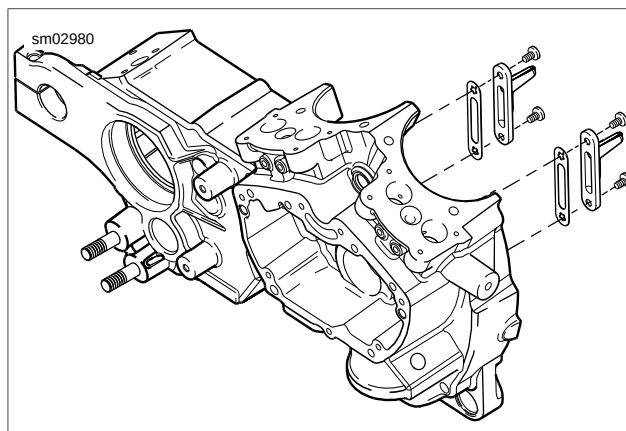

Figure 3-119. Piston Oil Jet Assemblies
- See Figure 3-119. Remove two TORX screws from each piston jet assembly to free piston jets from right crankcase.